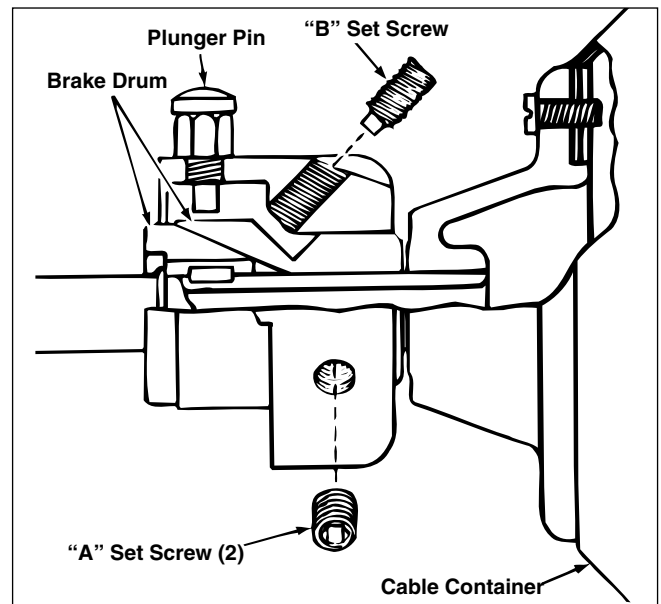

Figure 9 – Cable Adapter
- Slightly loosen two set screws "A" using a $\frac{5}{32}$ " hex wrench (*Figure 9*).
- Turn set screw "B" clockwise $\frac{1}{4}$ turn (*Figure 9*).